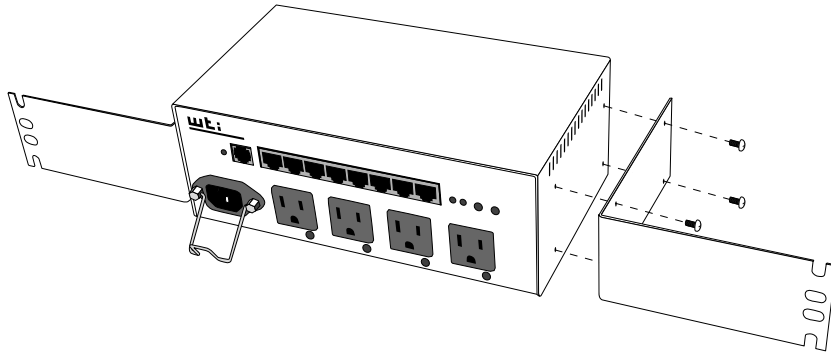

**Figure E.1: Wall Mounting (Front Panel Facing Upwards)**
- **Front Panel Facing Upwards:** Use the screws provided with the mounting kit to secure the wall mount brackets to the DCM unit as shown in Figure E.1. Use six screws per mounting bracket as shown.